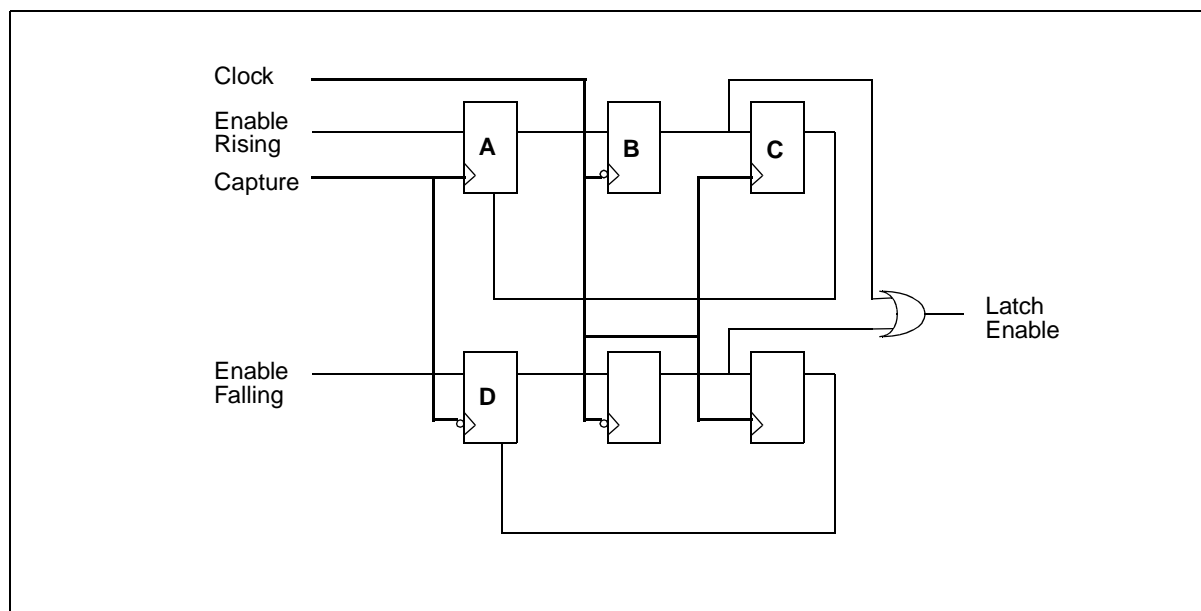
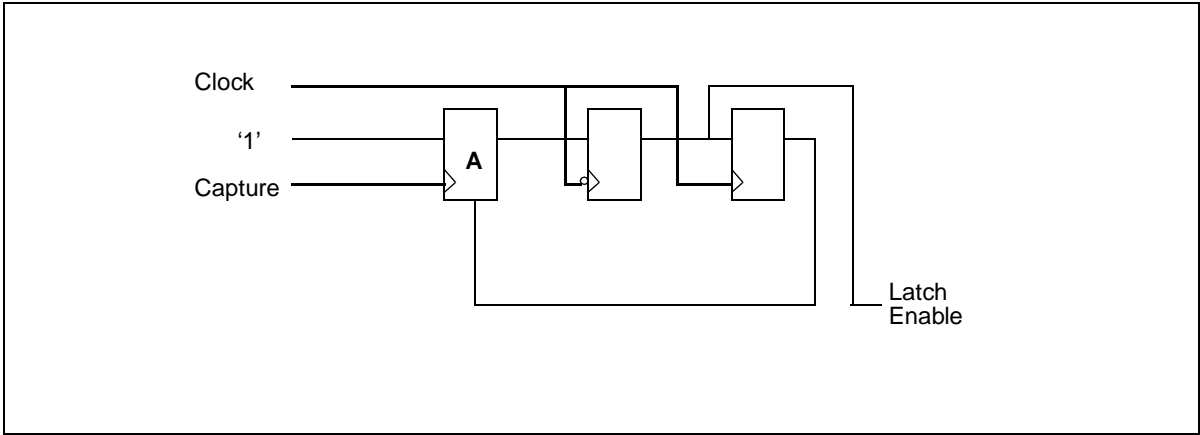

Figure 11.6: Edge detector (1) principle
Figure 11.7: Edge detector (2) principle
The architectures of Edge detector (1) and Edge detector (2) are represented in Figure 11.6 and Figure 11.7 respectively.
The Edge detector (1) represented in Figure 11.6 may be divided into two sections that are associated with rising edge detection (top row of cells) and falling edge detection (bottom row of cells). To explain the circuit functionality the rising edge detection is used as an example. The state of Enable Rising is user defined. Assuming that it is disabled (set to 0) then no contribution is made to the Latch Enable output circuit.